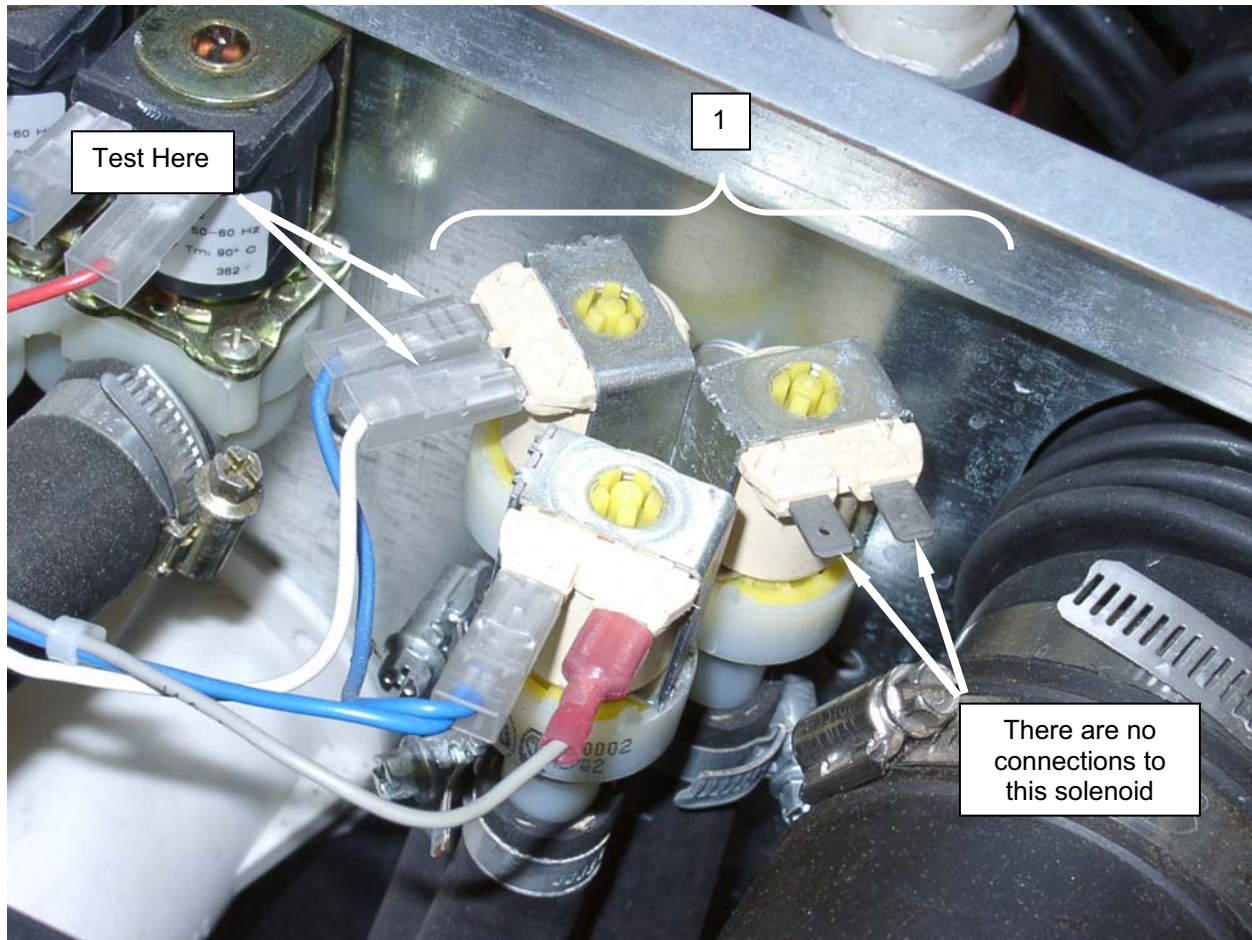

Figure 2. Test the Washer 3-Way Valve.
2. Tag and disconnect wiring from valve (**Figure 2, Item 1**).
4. Replace a valve (**Figure 2, Item 1**) with an open solenoid.